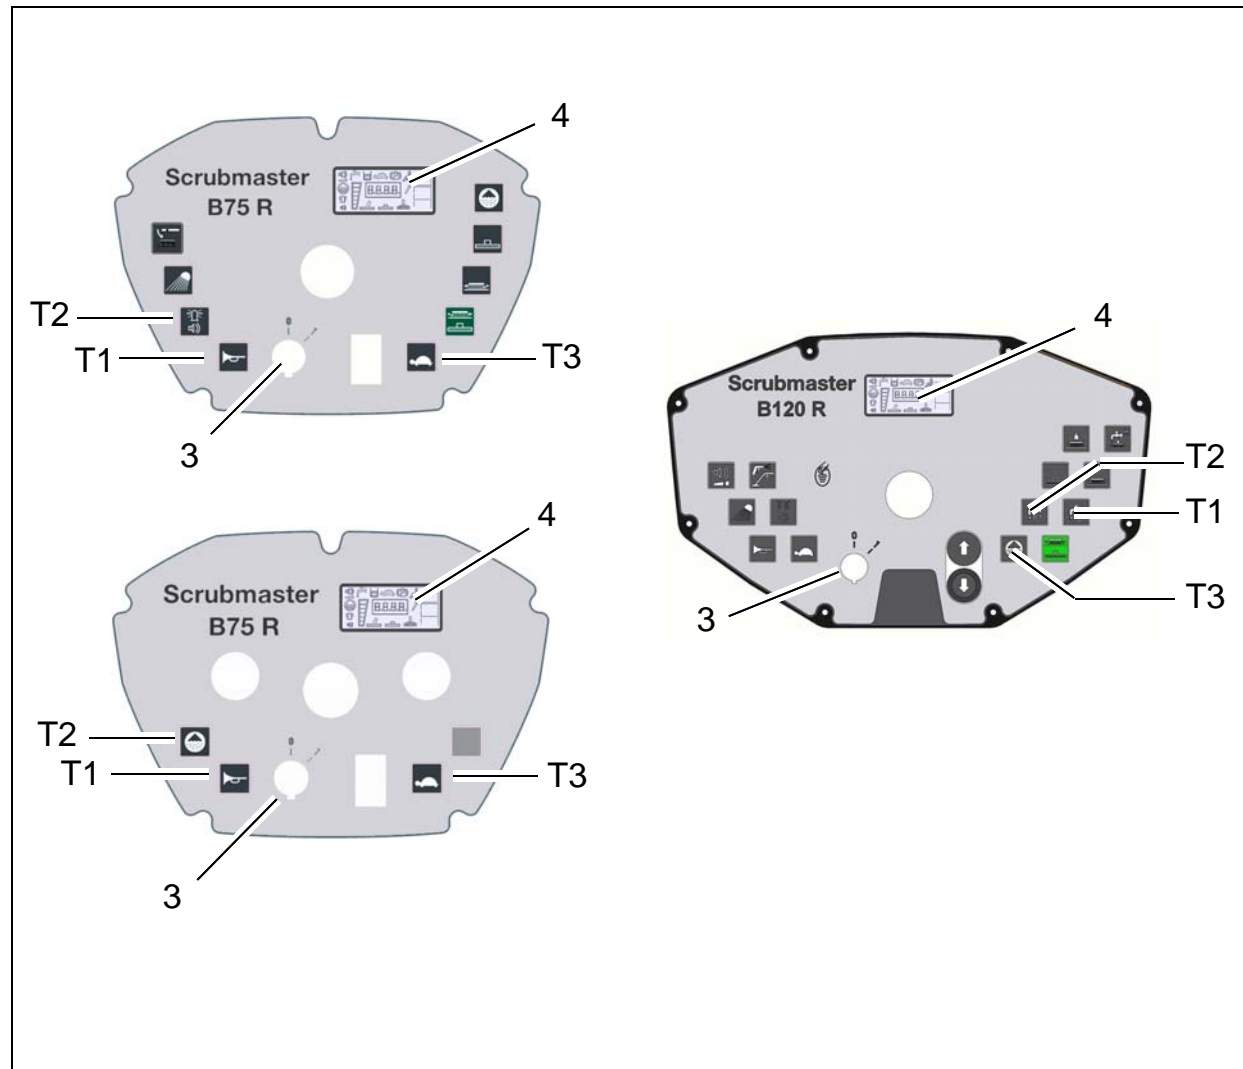

Fig.2
Button 1 (Fig. 2/T1):
Button 2 (Fig. 2/T2):
Button 3 (Fig. 2/T3):
5. Connect the diagnosis plug 97097737 to plug A1.X3 (Fig. 2/2) of the control electronics A1.
1. Open the configuration menu: Press button 1 and button 2 simultaneously and switch on the key switch (Fig. 2/3) and hold it for 3 seconds. The right-hand dot flashes in the indicator (Fig. 2/4):